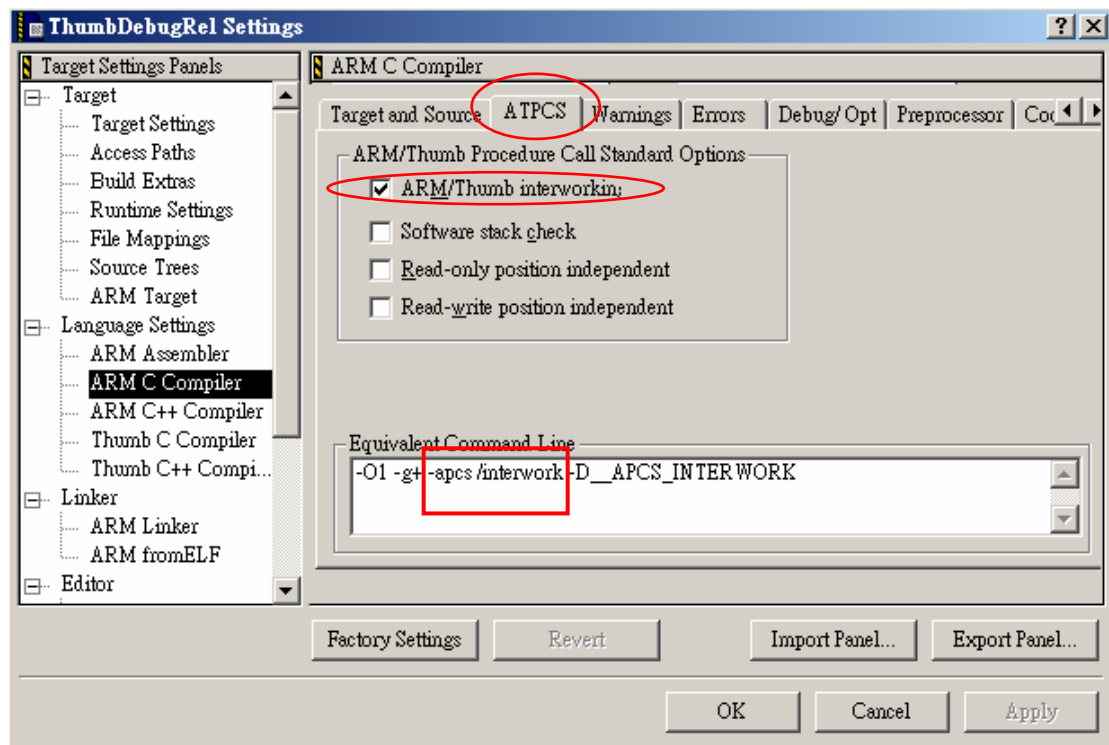

Figure 37. ATPCS setting.
3.2 A **ThumbDebRel Setting** window appears. Click **Language Settings** → **ARM C Compiler in Target Setting Panel**, and then click **ATPCS** tab Figure 37.